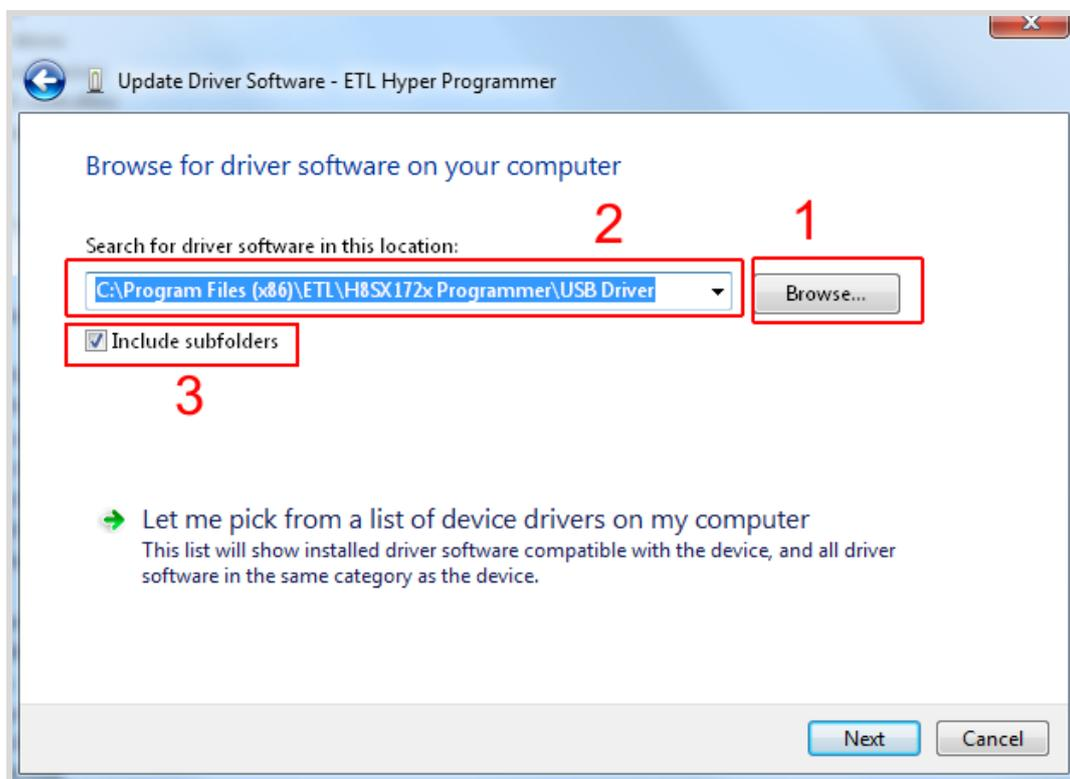

Figure 7. Update Driver Software - "ETL Hyper Programmer"
- In a couple of seconds, the Windows security alert screen will appear. Select the "Install this driver software anyway"(Figure 7)